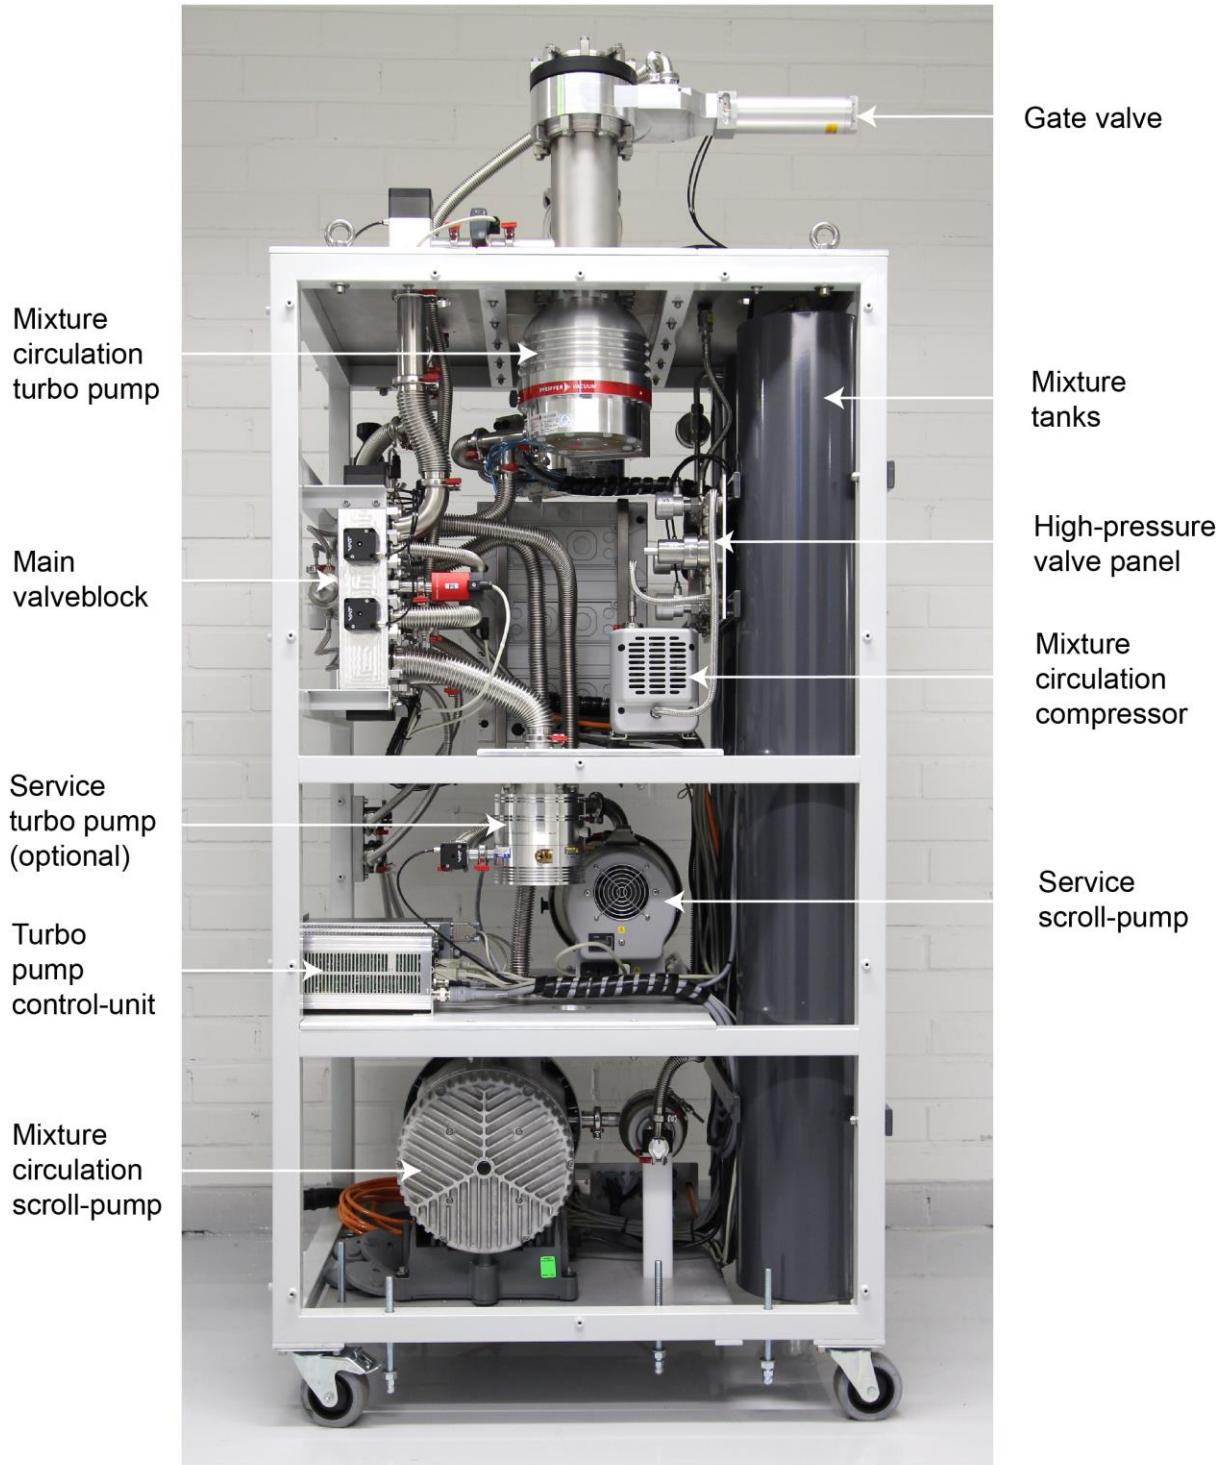
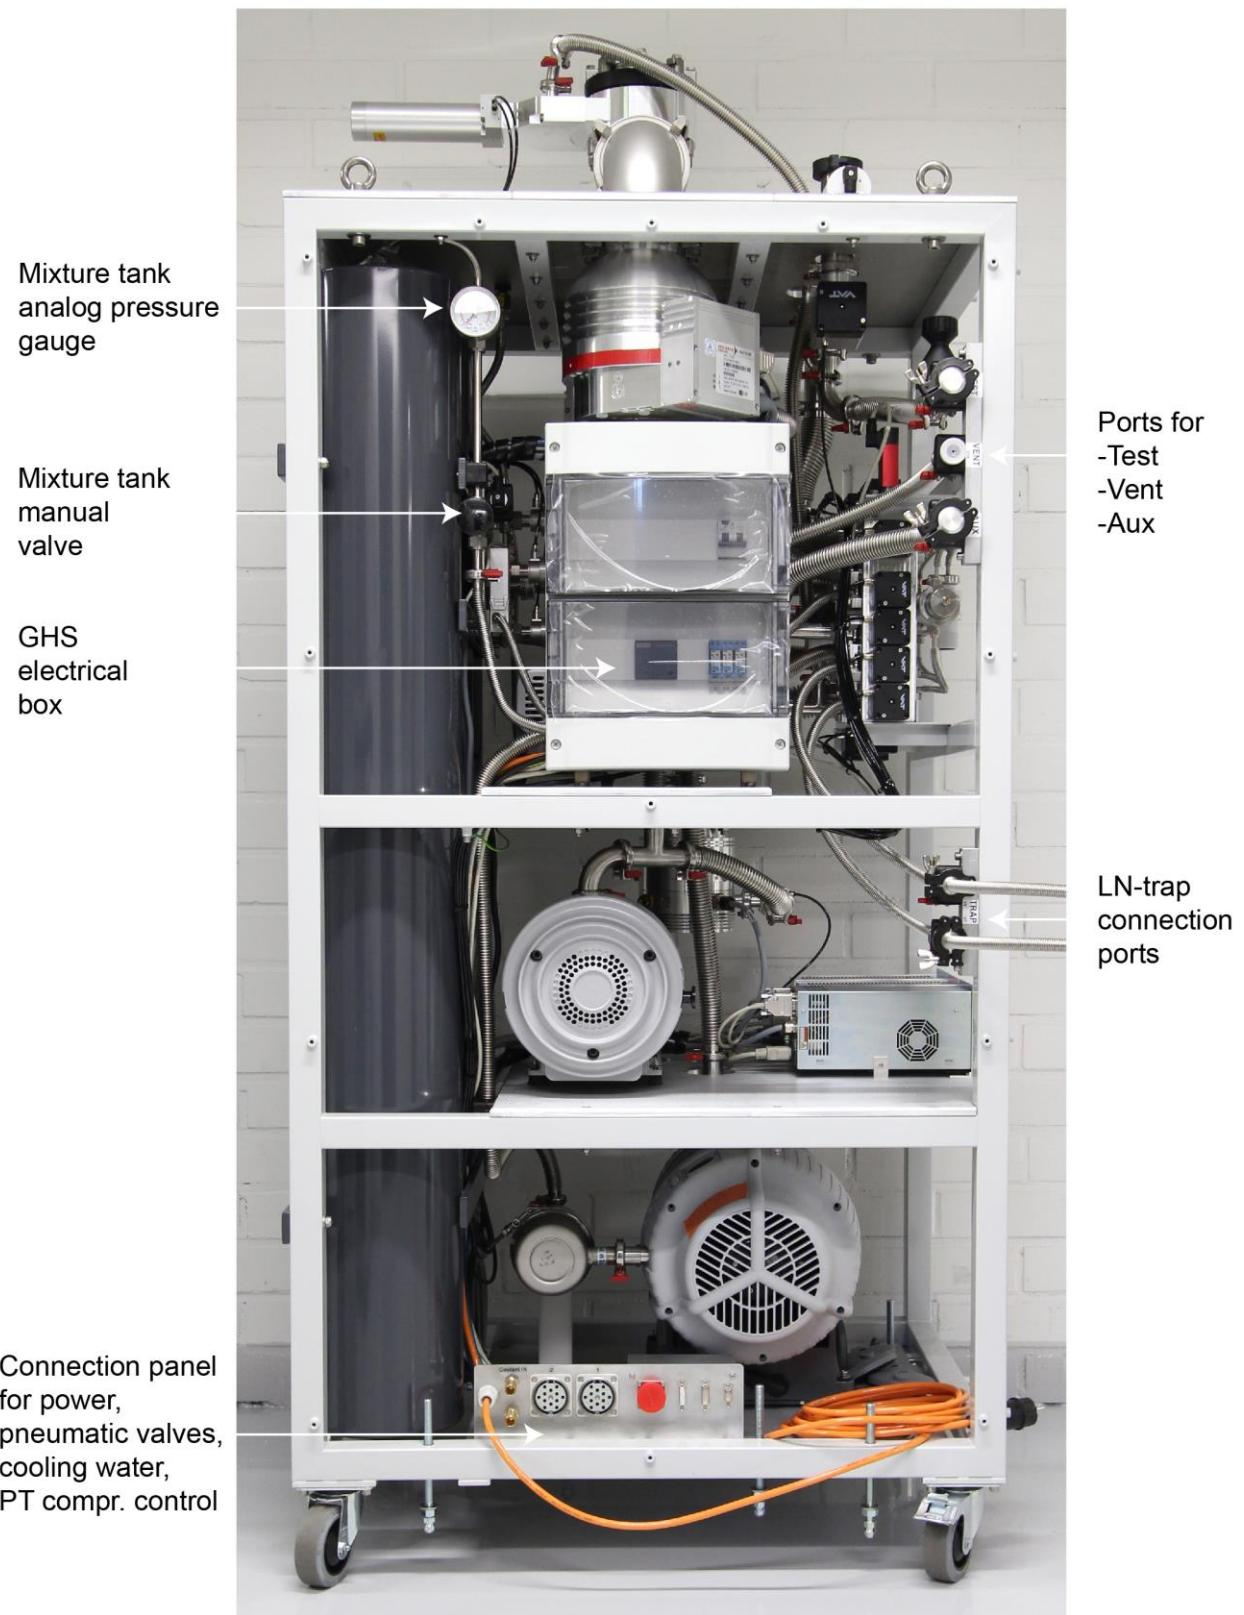

Figure 5. Gas handling system (GHS) main components.
Figure 6. GHS main components.
The GHS of the BF-LD-series system is contained in a single cabinet (see Figure 5, Figure 6). It contains all pumps, pumping lines, valves, pressure gauges, etc, which are necessary to operate the entire system. Because of acoustic noise this unit is preferably placed in a separate room from the cryostat, together with the Cryomech pulse tube compressor. The flow diagram of the GHS is shown in Attachment 7.1. As outlined in the diagram, it basically consists of two halves; the **main circulation circuit** and the **service manifold**. These two halves can be interconnected at different stages through valves V15, V17 and V18.
To save space and reduce the chance of leaks, the bulk part of the interconnecting tubes and vacuum valves are integrated in a single aluminum block, custom developed in cooperation with VAT Vacuum Valves AG (see Main valve block in Figure 5). All the valve actuators on this manifold are standard VAT parts which in the unlikely case of a failure can be easily and quickly replaced.
The commonly used vacuum access ports are located on the left-hand side of the GHS, these ports include (see Figure 6):
- All valves in the DR circulation are closed and that there is no pumping path to the mixture tank. **The safest option is to have the manual valve on the mixture tank closed** (see Figure 18 and Figure 6). **It is recommended to always keep the manual mixture tank valve closed when the system is not running.**